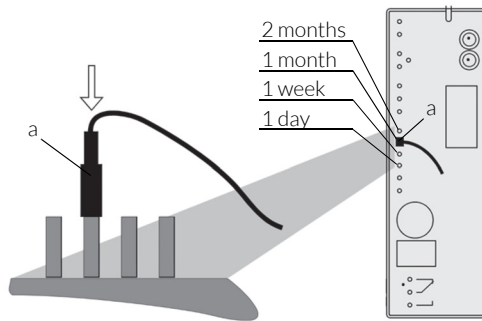

Fig. 3: Time control
- / Using the control electronics of the automatic controls, select the desired time interval for the time-controlled automatic backwashing process. By unplugging cable socket (a) and then plugging back in, select the desired time interval (see fig. 3). The selectable time intervals are indicated on a label on the side of the control electronics.